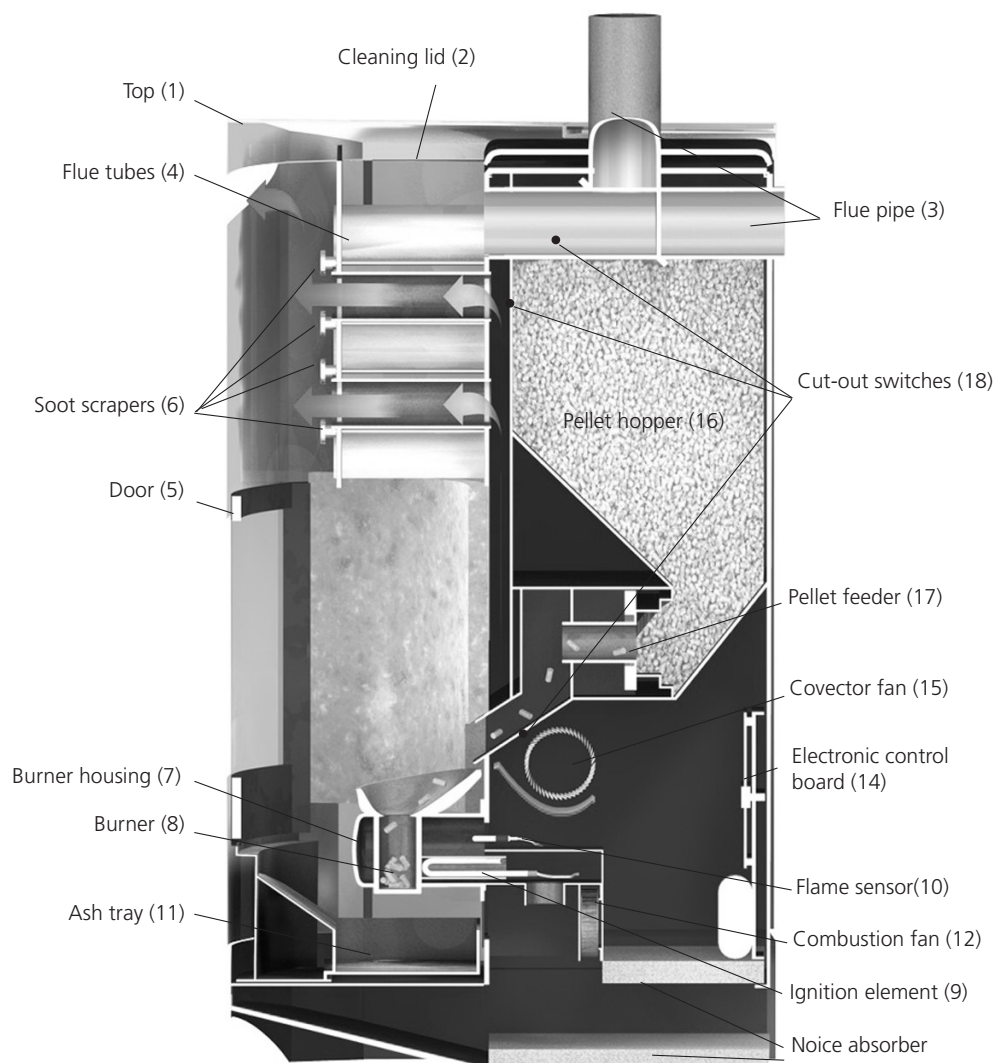

Fig. 1
3. Three thermostats are located as shown in section 1.2 Components (fig 1). If the maximum permitted temperature is exceeded the feeder stops, the stove switches itself off and the display shows "Operational stoppage". The alarm must be confirmed by pressing a button. Do not forget to rectify the cause of the operational stoppage. See section 3.6.1.
4. A flame sensor that detects flames is located in the burner housing (fig 1).